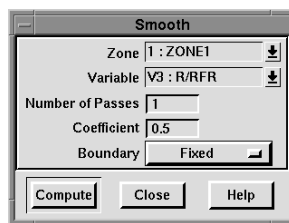

Figure 24-25. The Smooth dialog.
- From the Data menu, choose Alter, then choose Smooth. The Smooth dialog appears as shown in Figure 24-25.